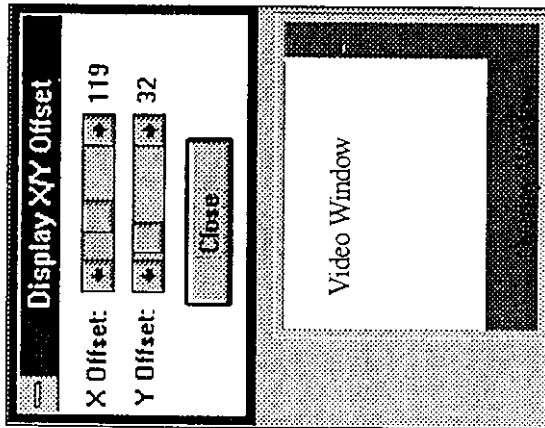

Figure 3-24.
5. CLICK on "Overlay Key Control" to set VGA Color Key to a color key value other than the default. CLICK on "Display X/Y Offset" to adjust the video window within the overlay window. When the video window is centered, it will completely cover the overlay window (see Figure 3-24).